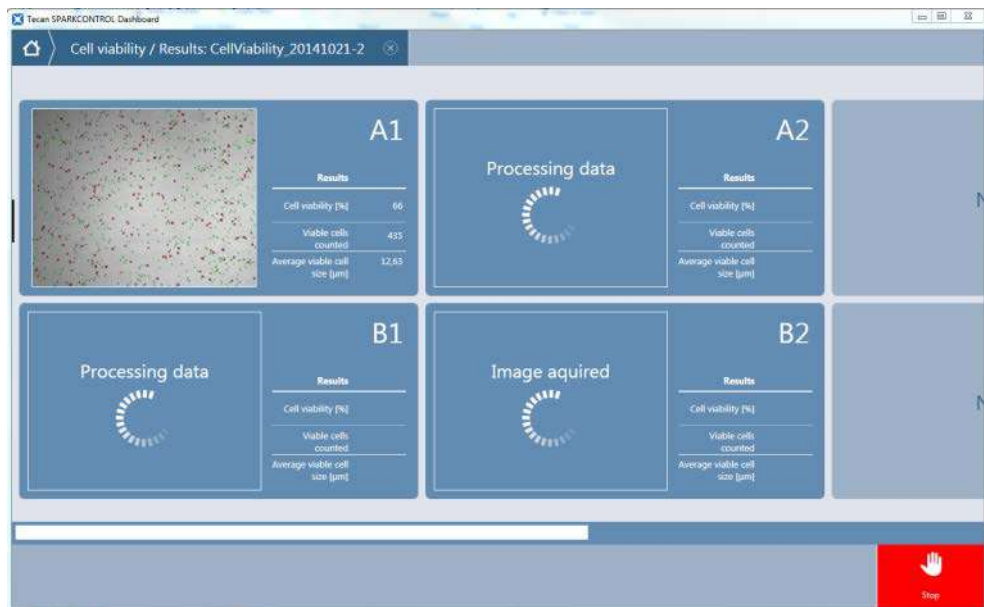

Figure 106: Measurement progress window
6. Start the cell viability measurement by selecting **Start**. The incoming images and data are displayed as soon as they are available (Figure 106: Measurement progress window).